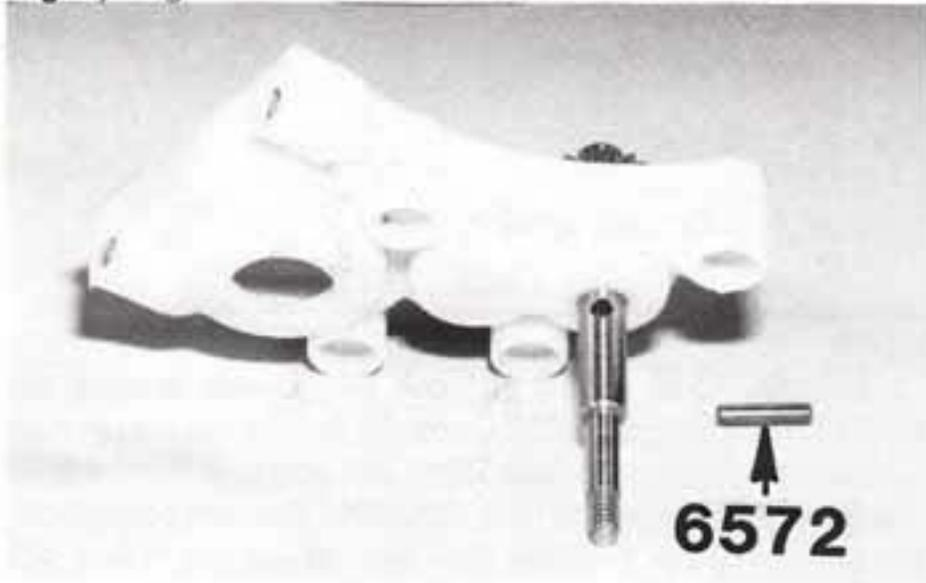

Fig. 60
□ **Figs. 60 & 61** Open bag E and remove the #6572 1/16" roll pin. Now using a pair of needle nose pliers, squeeze the roll pin into the hole in the #6571 drive shaft and center the pin. You may need to squeeze the roll pin slightly to get it started in the hole.
□ **Figs. 62 & 63** Install the assembled diff into the right case half lower bearing as shown in fig. 60. Make sure that you install the diff bolt head side through the right case half. **Note:** If you install the bolt head so that it is on the driver's side of the transmission, you may have a problem with the diff backing off. Locate the #6570 idler gear and shaft from bag D and install it into the center bearing of the right case half. There is no right and left gear side, so it can go in either way.